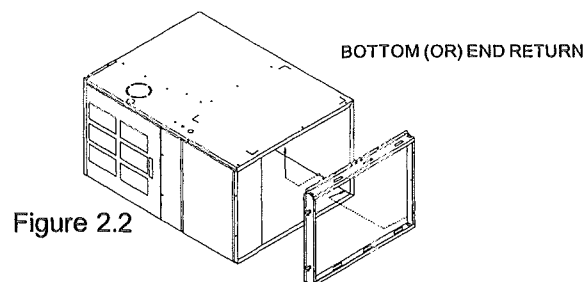

Figure 2.2
1. Slide the rear filter piece flange under the 3/4" flange on the back bottom end of the unit. (Figure 2.2)
2. Slide the bottom filter rack piece (slotted tabs facing up) under the bottom 3/4" flange on the bottom end of the unit and slide the rack towards the rear of the unit and engage the locking tabs onto the rear filter piece positioned in step 1 (Figure 2.2). Secure the bottom piece using self drilling screws placed into the 3/4" flange on the unit, and through the remaining portion of the base panel.